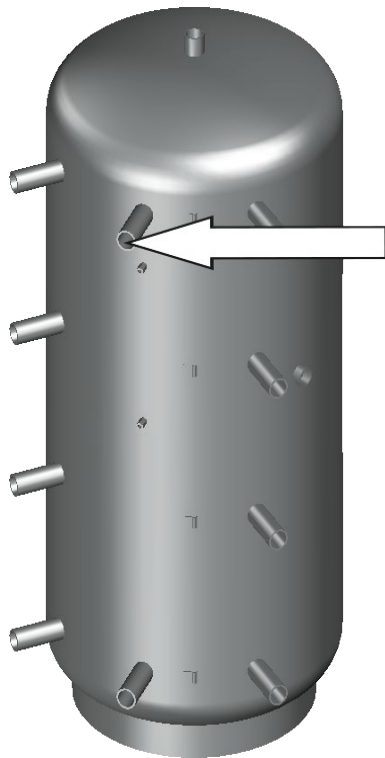
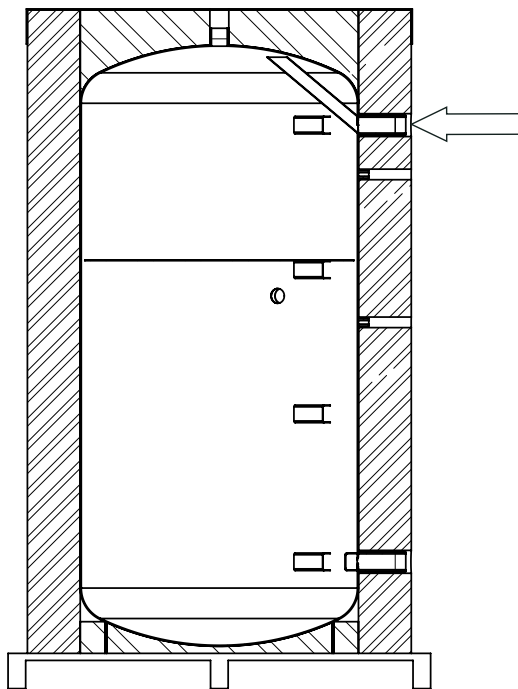

Fig. 15: Connection of the storage cylinder circuit supply to the buffer storage cylinder
Fig. 16: Internal design of the buffer storage cylinder
- When operating the fresh water station with Oventrop buffer storage cylinders of the "Hydrocor HP" series, connect the "storage cylinder circuit supply" to the connection pipe marked with an arrow in Fig. 15 and Fig. 16.